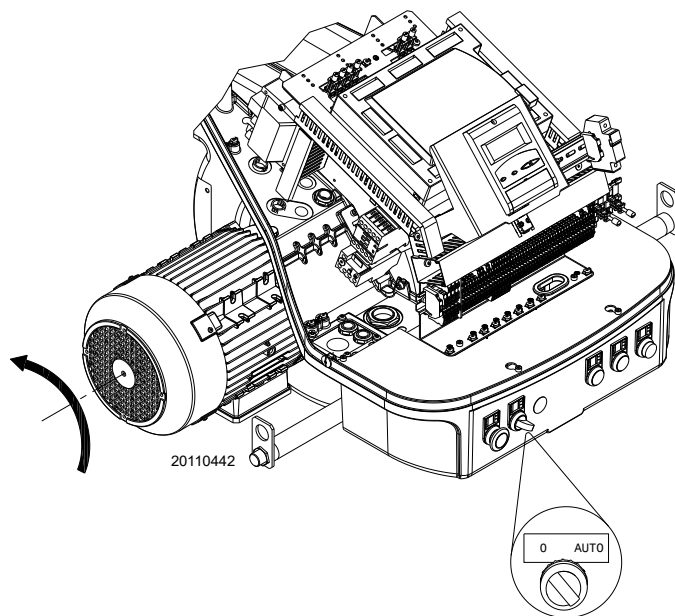

Fig. 30
Close the thermostats/pressure switches and turn the switch to Fig. 30 "AUTO".
If voltage is present, then **immediately** stop the burner and check the electrical wiring. When the burner starts, check the direction of the rotation of the motor, as shown in Fig. 30.
- place the switch of Fig. 30 in position "0" and wait for the control box to carry out the switch-off phase;
- working on the switch “**0-AUTO**” of Fig. 30 at page 31;